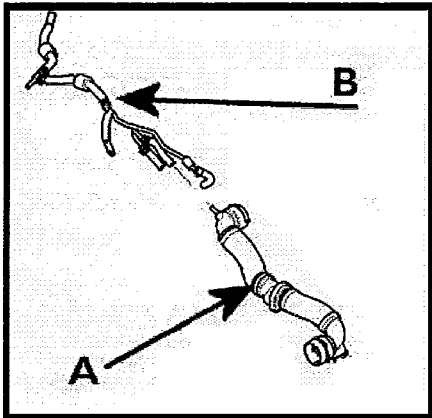

Figure 5
- Radiator Top Hose (Figure 5 Point A)
- Front Vent Pipe (Figure 5 Point B)